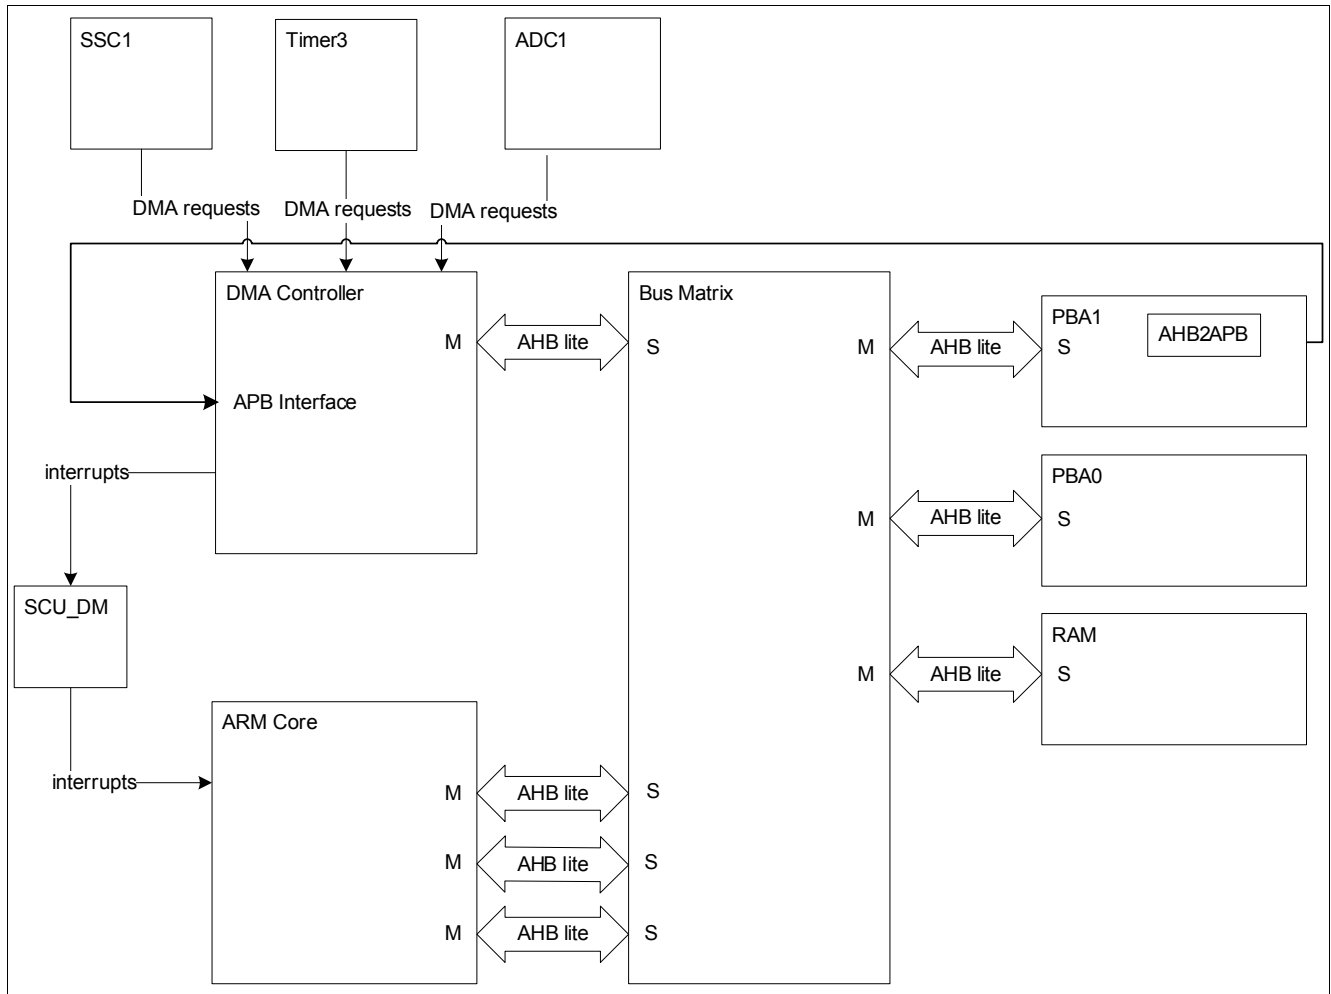

Figure 13 DMA Controller Top Level Block Diagram
**Figure 13** shows the Top Level Block Diagram of the TLE9867QXA40.